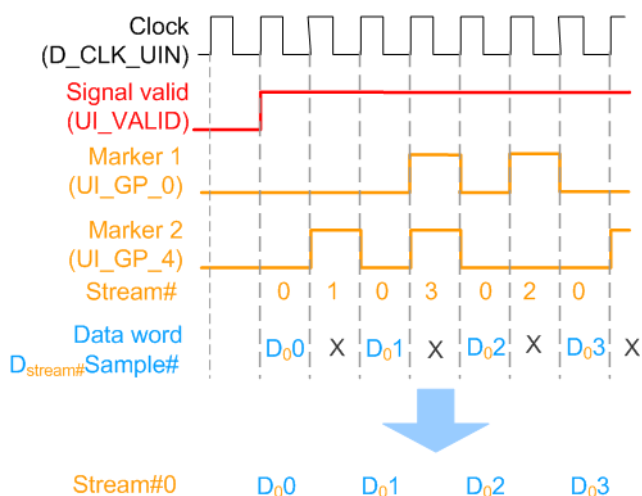

Figure 3-3: Example: Signal at the user interface of the R&S EX-IQ-Box (one multiplexed stream)
- signal valid (UI_VALID) indicates valid samples, see Figure 3-3
- multiplexed samples have to be evaluated one by one (see also Figure 3-3)
The Figure 3-3 shows the multiplexed signal at the user interface of the R&S EX-IQ-Box.